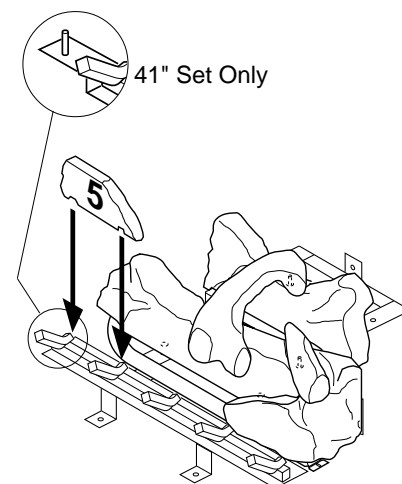

Figure 49 - Installing Log No. 5
5. Place log #5 (small log) onto the front left part of the grate making sure the notches fit over the prongs of the grate (and hole over pin on 41" set). See Figure 49.